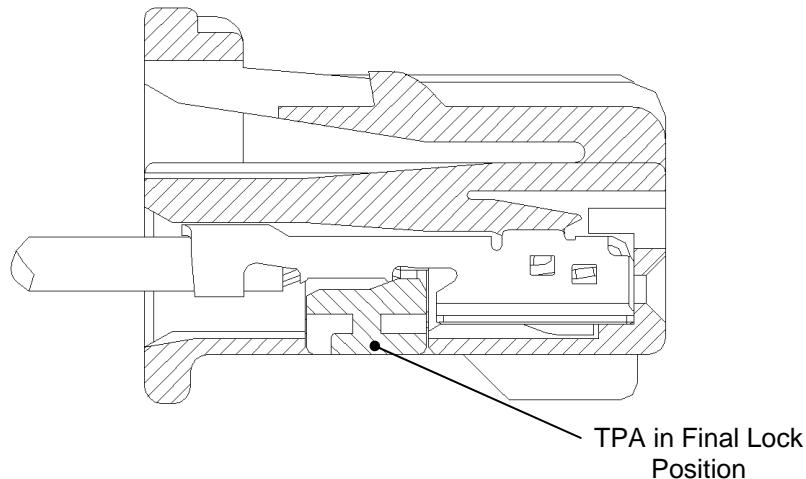

Figure 17. TPA in Final Lock Position
b) As TPA goes into its final position, an audible click should be heard as the secondary lock engages in the housing. See Figure 17.
- a) Check to see if the TPA is in the proper position before mating the assemblies. See Figure 17 for the TPA's final position.